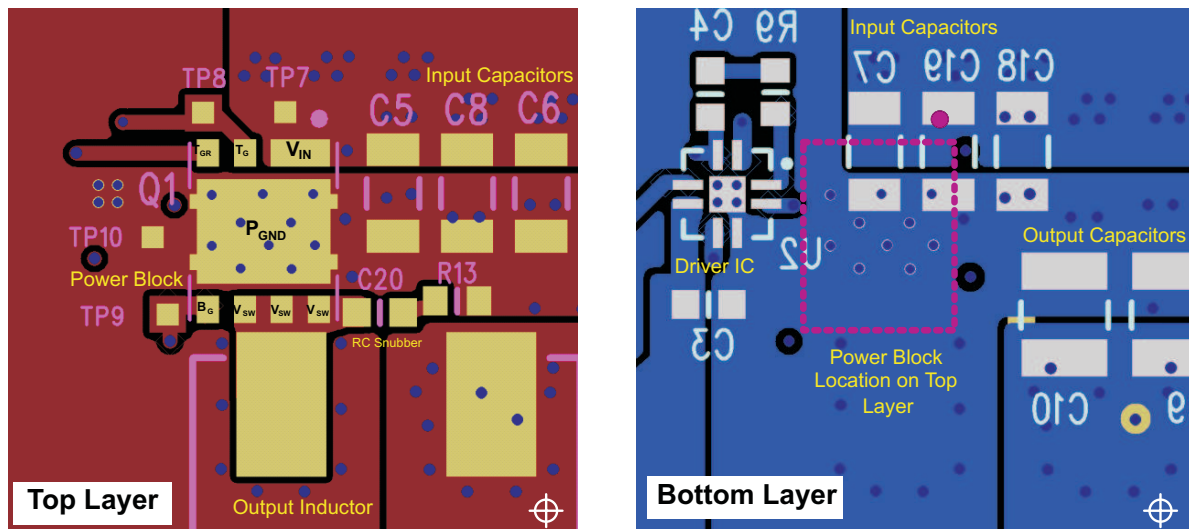

Figure 34. Recommended PCB Layout (Top Down View)
- The placement of the input capacitors relative to the power block's VIN and PGND pins should have the highest priority during the component placement routine. It is critical to minimize these node lengths. As such, ceramic input capacitors need to be placed as close as possible to the VIN and PGND pins (see Figure 34). The example in Figure 34 uses 6 × 10-μF ceramic capacitors (TDK C3216X5R1C106KT or equivalent). Notice there are ceramic capacitors on both sides of the board with an appropriate amount of vias interconnecting both layers. In terms of priority of placement next to the power block, C5, C7, C19, and C8 should follow in order.
- The switching node of the output inductor should be placed relatively close to the power block VSW pins. Minimizing the node length between these two components will reduce the PCB conduction losses and actually reduce the switching noise level. In the event the switch node waveform exhibits ringing that reaches undesirable levels, the use of a boost resistor or RC snubber can be an effective way to reduce the peak ring level. The recommended boost resistor value will range between 1 Ω to 4.7 Ω depending on the output characteristics of driver IC used in conjunction with the power block. The RC snubber values can range from 0.5 Ω to 2.2 Ω for the R and 330 pF to 2200 pF for the C. Refer to Snubber Circuits: Theory , Design and Application (SLUP100) for more details on how to properly tune the RC snubber values. The RC snubber should be placed as close as possible to the Vsw node and PGND see Figure 34. ⁽¹⁾
- Use the smallest drill size allowed in the design. The example in Figure 34 uses vias with a 10-mil drill hole and a 16-mil capture pad.